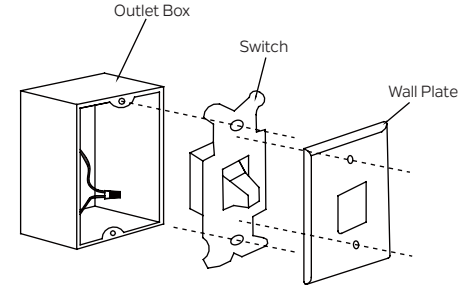

Fig. 26
**Step 1.** To place the transmitter in the wall plate, put the bottom end in first and then press the top into the wall plate. The transmitter is now held in the wall plate and will function from here. (Fig.26)